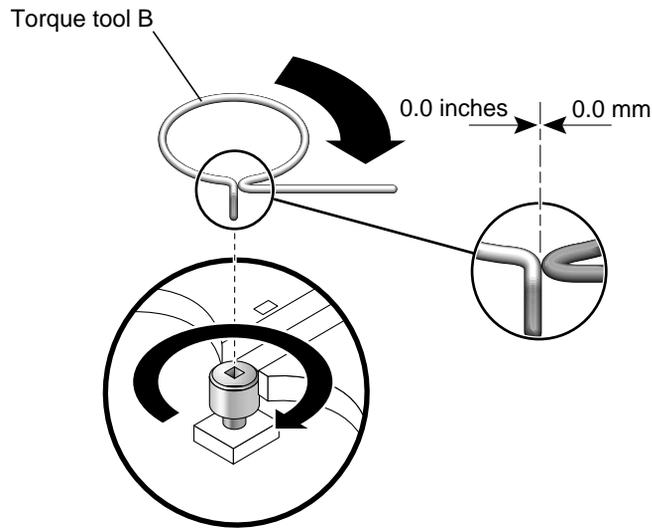

FIGURE 14 Adjusting Torque Tool B Until the Gap is 0.0 Inches (0.0 mm.)
7. Repeat Step 5 and Step 6 until the gap for torque tool B is 0.0 inches (0.0 mm.) (see FIGURE 14).